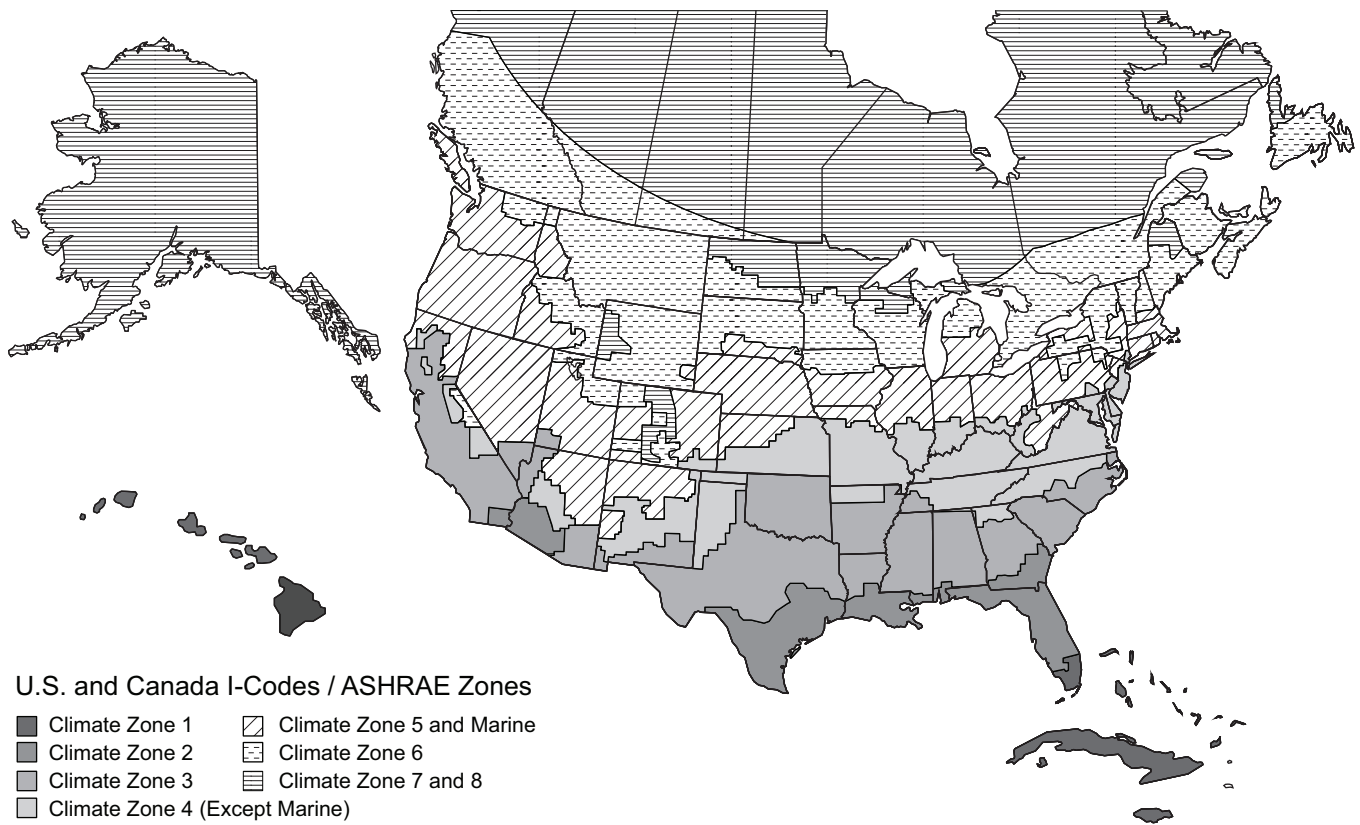

Fig. 92 — U.S. and Canada Climate Zones
- a. Refer to Fig. 92 for map of U.S. and Canada climate zones.